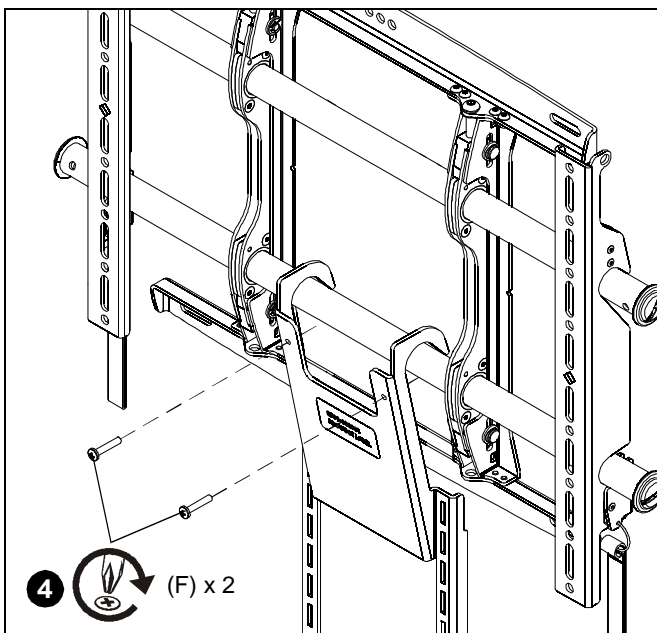

Figure 5
**NOTE:** The shelf with hanger bracket may be adjusted up or down on the hook bracket (A) in 7/8" increments for a total height adjustment of up to 6.05".
4. Adjust location and secure to wall mount rail using two 10-24 x 1" Phillips pan head screws (F). (See Figure 5)